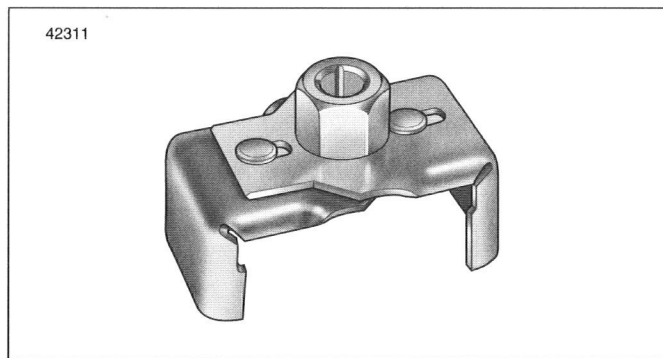

Figure 61. Oil Filter Wrench
- a. See Figure 61. The OIL FILTER WRENCH (Part No. **HD-42311**) allows easy removal of the oil filter without risk of damage to the crankshaft position sensor or cable.